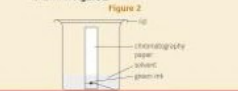

Figure 2: What does Figure 2 tell you about green ink? (2 marks)
62 A student investigated green ink using chromatography. She set up the apparatus as shown in Figure 2.
62.1 Describe what would have happened if the student had set the apparatus up as shown in Figure 2.